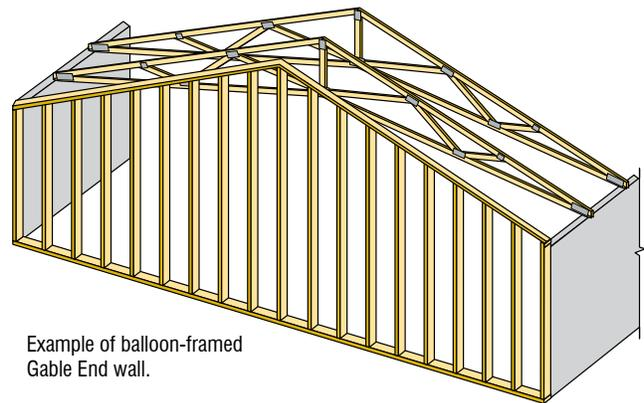
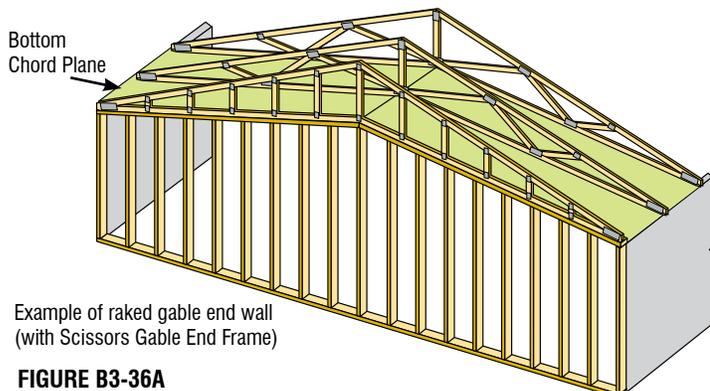

FIGURE B3-35
FIGURE B3-36A
- ✓ The Building Designer may decide to design a balloon-framed end wall, which eliminates the need for a Gable End Frame (see Figure B3-35). If a Gable End Frame is used, it must match the profile of the adjacent Trusses so that proper Bottom Chord Plane Bracing can be installed (see Figure B3-36A), unless special Bracing is designed to support the end wall.